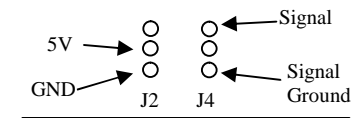

Figure 4 R/C Power & Signal Pin-Outs
6. Connect your R/C receiver. Making sure the signal, power and ground connections are correct for your model receiver. See Table 4 and Figure 4.